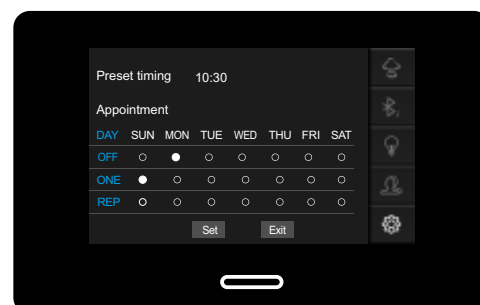

Figure 9
- Press the dots to set the running day of each week. "OFF" means the system won't operate that day. "ONE" means the system will operate once that day. "REP" means the system will be operated repeatedly until manually shut down. (Figure 9)
- Press the time on the top of screen and roll up and down to set the specific start time of system. (Figure 9)
- Press "Set" to save the setting and go back to setting interface. (Figure 9)